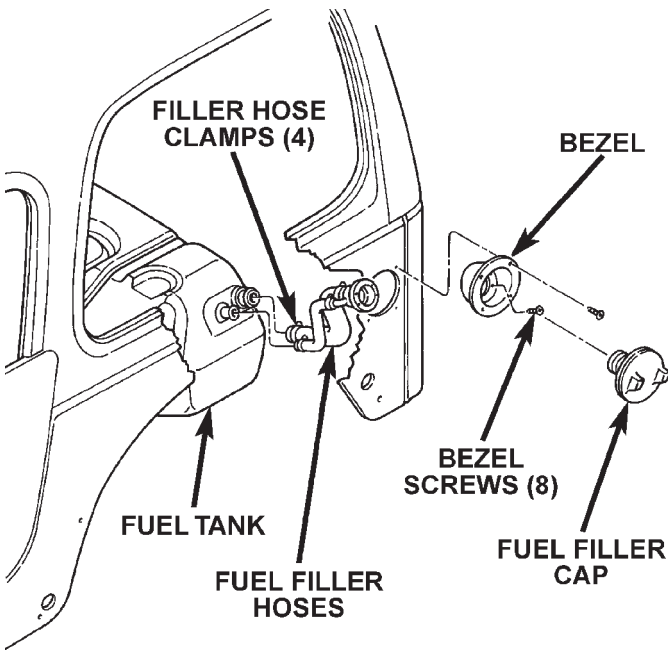
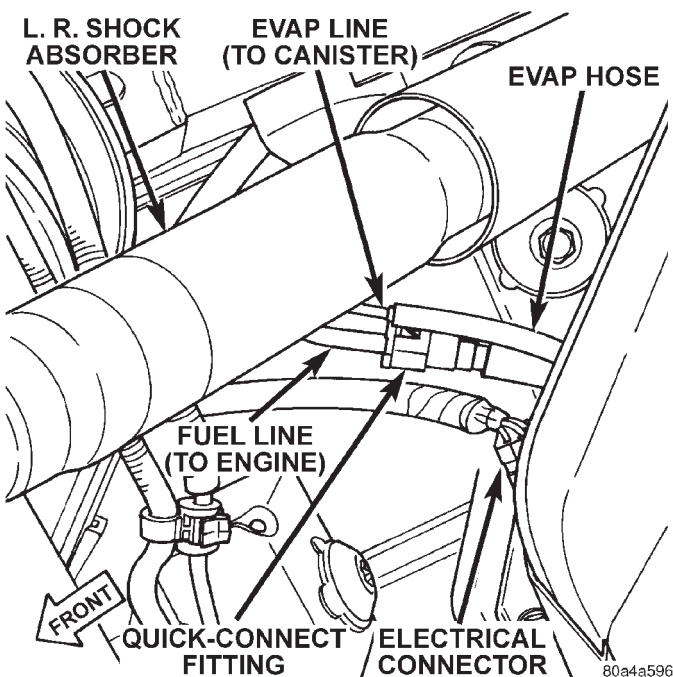
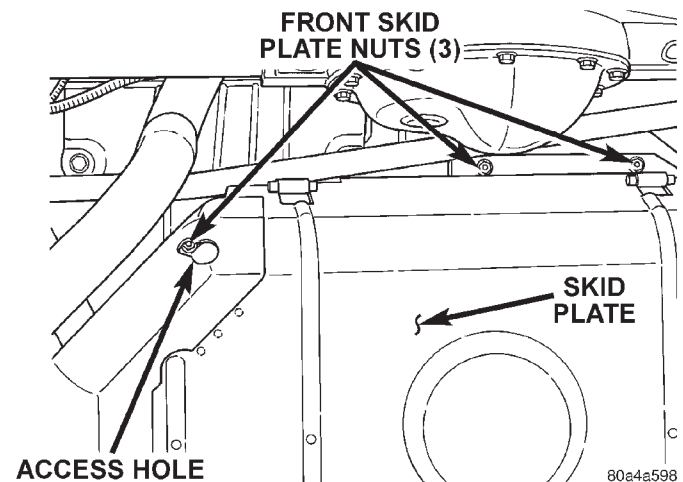

Fig. 34 Fuel Filler Hoses/Fuel Fill Cap
Fig. 35 Fuel Tank Connections
Fig. 37 Fuel Tank Mounting Nuts—Front
- (1) Remove fuel filler cap.
- (2) Perform the Fuel System Pressure Release Procedure as described elsewhere in this group.
- (3) Disconnect negative battery cable.
- (4) Remove 8 screws retaining plastic fuel filler bezel to body (Fig. 34). Remove fuel filler bezel.
- (5) To prevent contaminants from entering tank, temporarily install fuel cap to fill hoses.
- (6) Cut plastic tie wrap securing rear axle vent hose to fuel filler hoses.
- (7) Disconnect electrical connector at front of fuel tank (Fig. 35).
- (8) Disconnect EVAP hose from EVAP line at front of fuel tank (Fig. 35).
- (9) Disconnect quick-connect fitting from fuel line at front of fuel tank (Fig. 35). Refer to Quick-Connect Fittings in this group for procedures.
- (10) The fuel tank and skid plate are removed as an assembly. Centrally position a transmission jack (or equivalent lifting device) under skid plate/fuel tank assembly. Secure tank assembly to jack.
- (11) Remove three skid plate-to-body nuts at front of tank (Fig. 37). Remove one of the nuts through access hole on skid plate (Fig. 37).